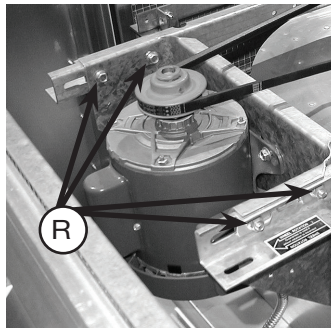

Figure 5
3. Belt tension can be adjusted by loosening four fasteners (marked “R” in Figure 5) on the drive frame. This allows the motor plate to slide on the drive frame angles for proper positioning.